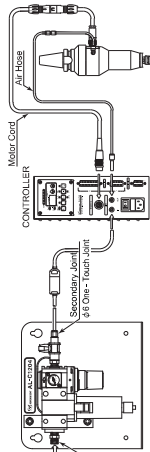

Fig. 24
- ① Connect the Motor Cord and Air Hose as shown in Fig. 24.
- ② An Air Line Kit such as NAKANISHI'S (AL-C1204) must be used. The CONTROLLER and the HES Brushless Motor Spindle must be supplied with clean, dry air regulated to between 0.25MPa ~ 0.3MPa. Connect the output of the air line to the Air Inlet of the CONTROLLER. The air line must be connected to the CONTROLLER and the HES Brushless Motor Spindle.